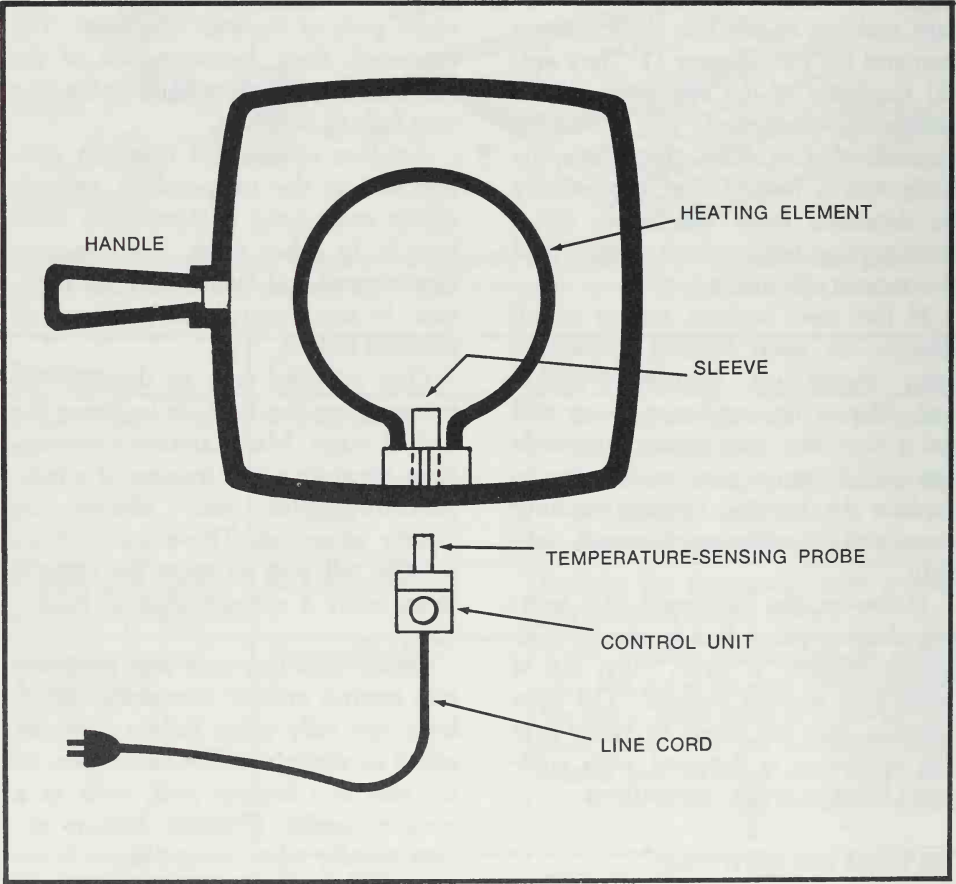

Figure 1. Electric cooking utensils discussed in this chapter are simple and easily checked.
ONLY A FEW MAJOR PARTS go into making an electric skillet, sauce pan and fry pan (Figure 1). They are: (1) the body of the appliance, which is usually aluminum; (2) a heating element that is built right into the body; (3) a handle that can usually be detached from the body; (4) a combination temperature control and thermostat; (5) a line cord.